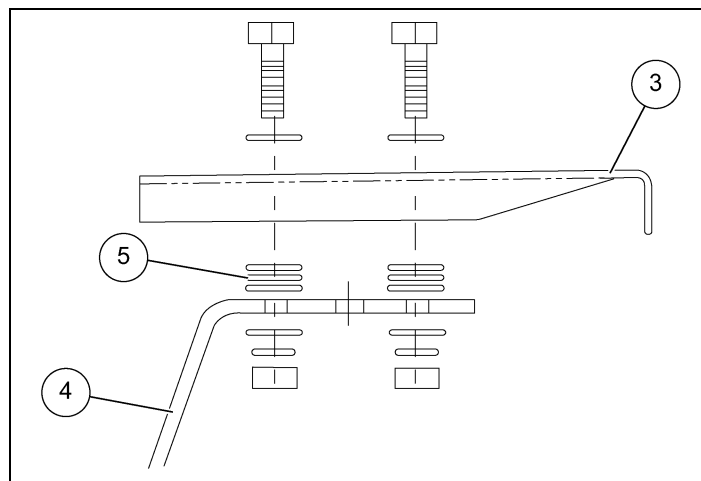

Figure 4B Use Washers to Level Unit
5. If the unit is not level, add spacer washers between hanger brackets and hanger extensions to level unit. (See Figure 4B.)